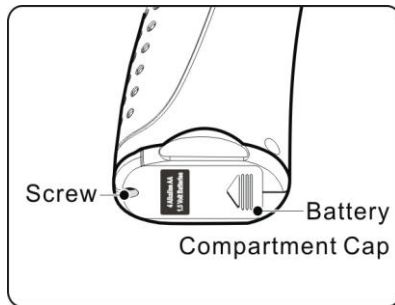

Fig. 5
- 1) Turn the display unit handheld upside down to expose the battery compartment cap and screw. (**Fig. 5**)